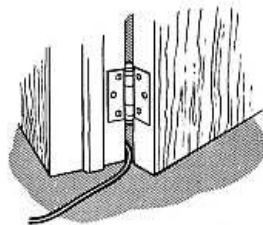

Figure 5
3. Extension cords run through doorways (Figure 5)